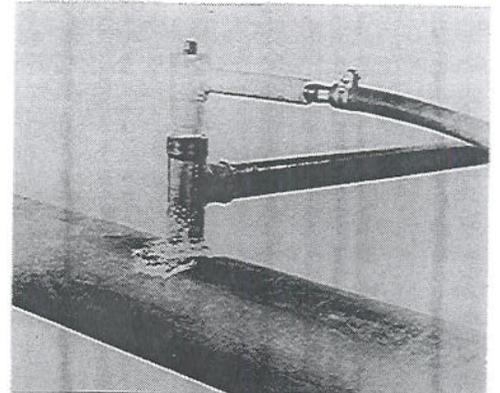

FIGURE 9
- 4a. If installing a $\frac{3}{4}$ " , 1" or 1 $\frac{1}{4}$ " Service Tee or Valve Tee the H-17618 Test Fitting may be used instead of the test cap. Screw the Test Fitting into the top of the Tee. The fitting has a handle and does not require a wrench. Attach air hose to one of the $\frac{1}{4}$ " I.P. tapped openings and a gauge or plug to the other $\frac{1}{4}$ " I.P. tapped opening. **Figure 9.**